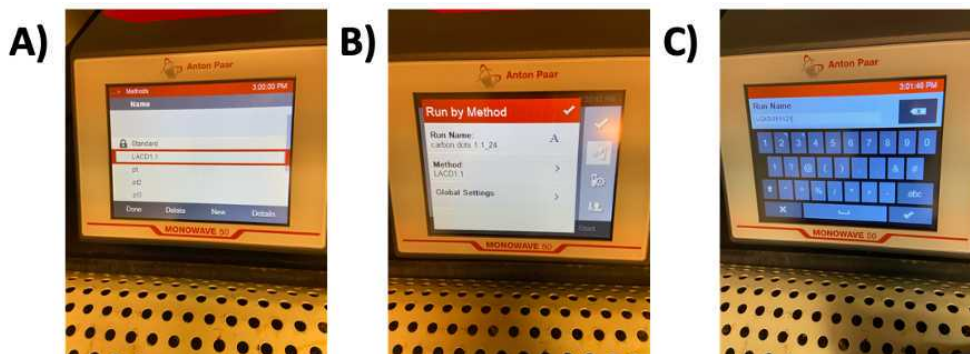

Figure 4. Photos of Monowave 50 reactor touch screen used for setup. **A)** Select LACD1.1 method. **B)** Choose "Run by Method". **C)** Enter File name for saving data.
- Select LaCD settings in the "Run by Methods" (**Fig 4**) by pressing the Menu button
- In the text box, name the file as "LACD-today's date" (**Fig 4**)